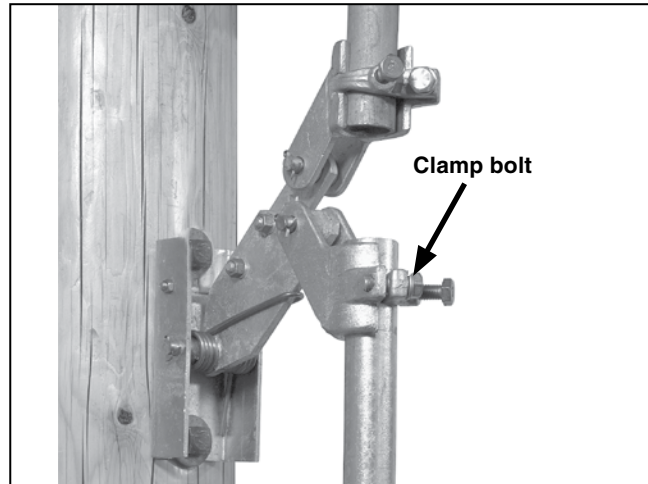

Figure 14. Torquing the clamp bolt at the lowest rod guide (or interphase drive lever) coupling.
STEP 23. If there is still slack, loosen the clamp bolt on the lowest rod-guide (or switch drive-lever) coupling, and move the operating handle to a position more than 20 degrees from the **Closed** position. Then, torque the clamp bolt on the lowest rod-guide (or switch drive-lever) coupling. See Figure 14.
Conversely, if considerable force is needed to move the handle to the fully **Closed** position, or the handle does not swing 180 degrees to the fully **Open** position, loosen the clamp bolt on the lowest rod-guide (or switch drive-lever) coupling, and move the handle to a position less than 20 degrees from the **Closed** position. Then, torque the clamp bolt on the lowest rod-guide (or switch drive-lever) coupling. See Figure 14. Proper “resistance” in the operating linkage during a closing operation is essential to ensure positive switch closure.